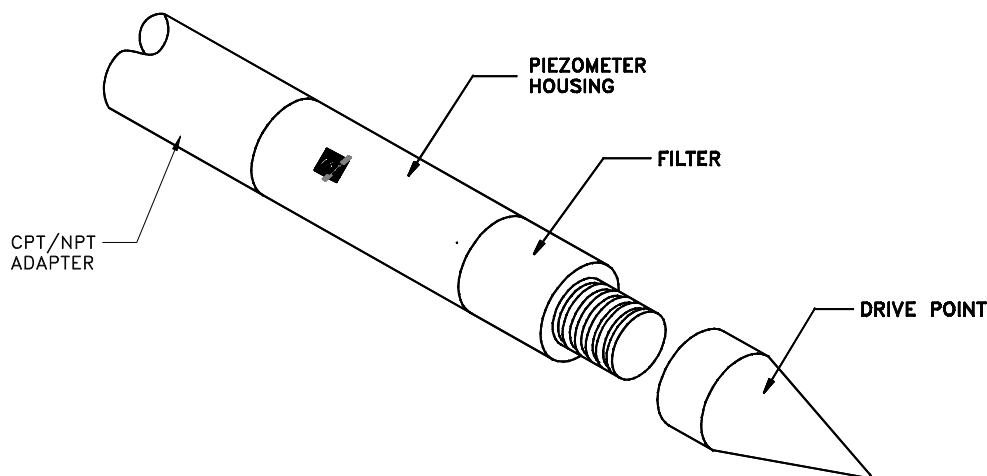

Figure 3 – Unscrew the drive point
Caution must be exercised when installing a piezometer using the push-in method. As the piezometer is pushed through the soil, temporary changes in pore water pressure can occur around the piezometer. If these pore water pressures exceed the range of the instrument, permanent can occur. It is recommended that piezometer readings be taken continuously as the instrument is being pushed in, and the rate of pushing be based on the readings. The RST P-102-SS has its filter located on the side of the instrument (Figure 3) which helps avoid over ranging of instrument during installation.
3. Unscrew the drive point of the piezometer, so that water can flow freely into the piezometer (Figure 3).